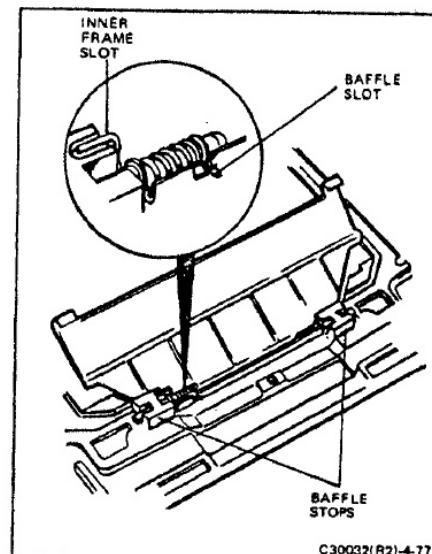

FIGURE 4-77 BAFFLE HINGE SPRING
- Refer to Figure 4-77. Install the spring on the right-hinge pin.
- Engage the shorter of the two spring extensions into the slot on the lip of the baffle (Figure 4-77).
- Use a dental pick or other suitable tool and hook the longer spring extension into the slot provided for it on the inner frame (Figure 4-77). Check the spring action of the baffle. It must be completely free - no evidence of binding is tolerable. Also, when in the raised position, the baffles should rest uniformly on the baffle stops of the inner frame.